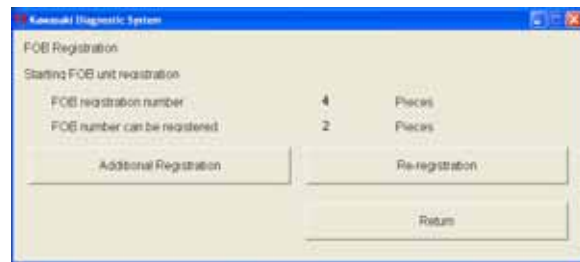

Fig. 5-34 Additional Registration
Fig. 5-34 appears.
- o Select **Re-registration** (Fig. 5-34). Select **OK** (Fig. 5-35). In this example there are 3 fobs.